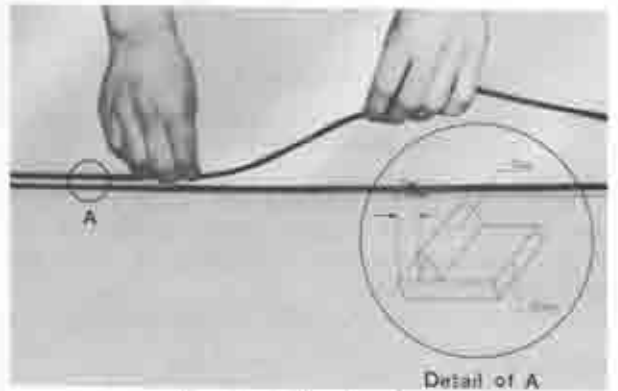

Fig. 14-29 Bonding dam
2. Clean the glass thoroughly and bond the dam with bonding agent parallel to the edge of the glass at a position 7 mm (0.28 in) away from it. Bond the dam in the direction shown in Fig. 14-29.